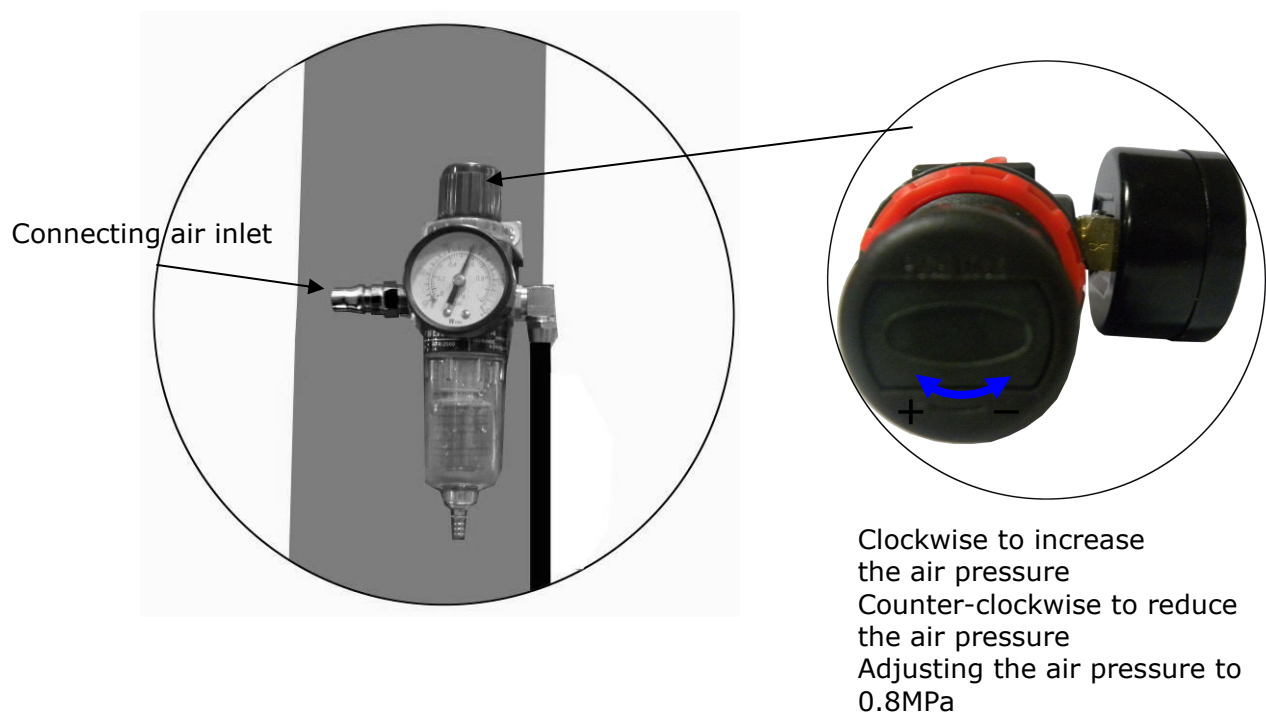

Fig. 32
6. Connecting air inlet (Air supply pressure 5kg/cm^2 - 8kg/cm^2), adjusting the air pressure of Oil-water separator to 0.8MPa (**See Fig. 32**).